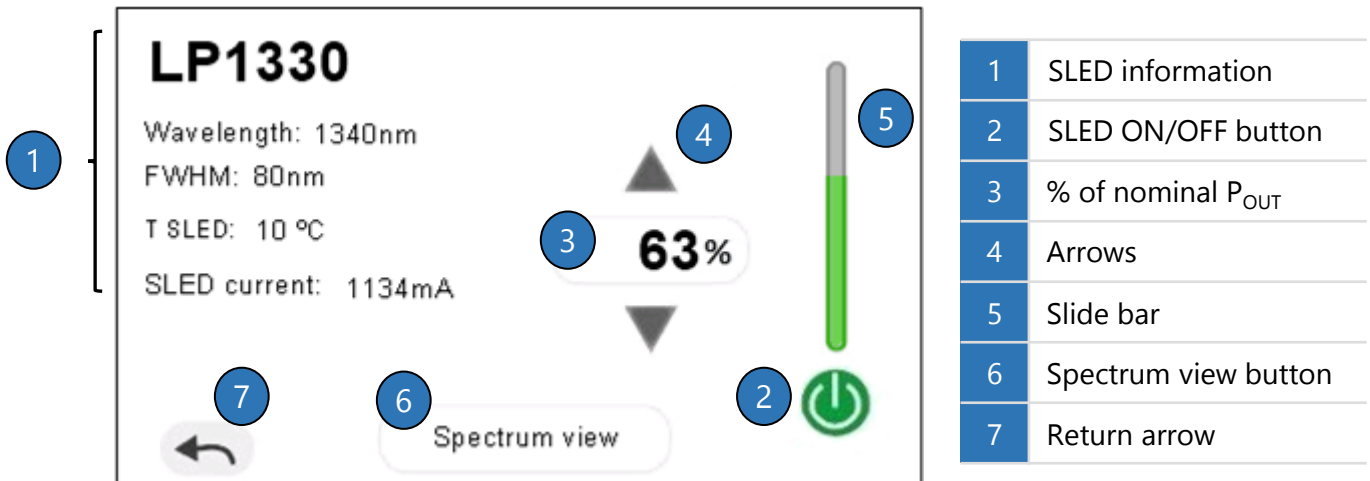

Figure 2. SLED screen
Each SLED contained in the FJORD light source possesses a small rectangle (2) in the initial screen with its name (3), the percentage of the nominal output power (4) and a status circle (5) on the upper right corner of the rectangle. To access to more detailed information about the SLED (see **Figure 2** on the next page), please touch the rectangle.
By pressing the arrow on the bottom left corner, you will be returned to the SLED screen (see **Figure 2** on p.10).